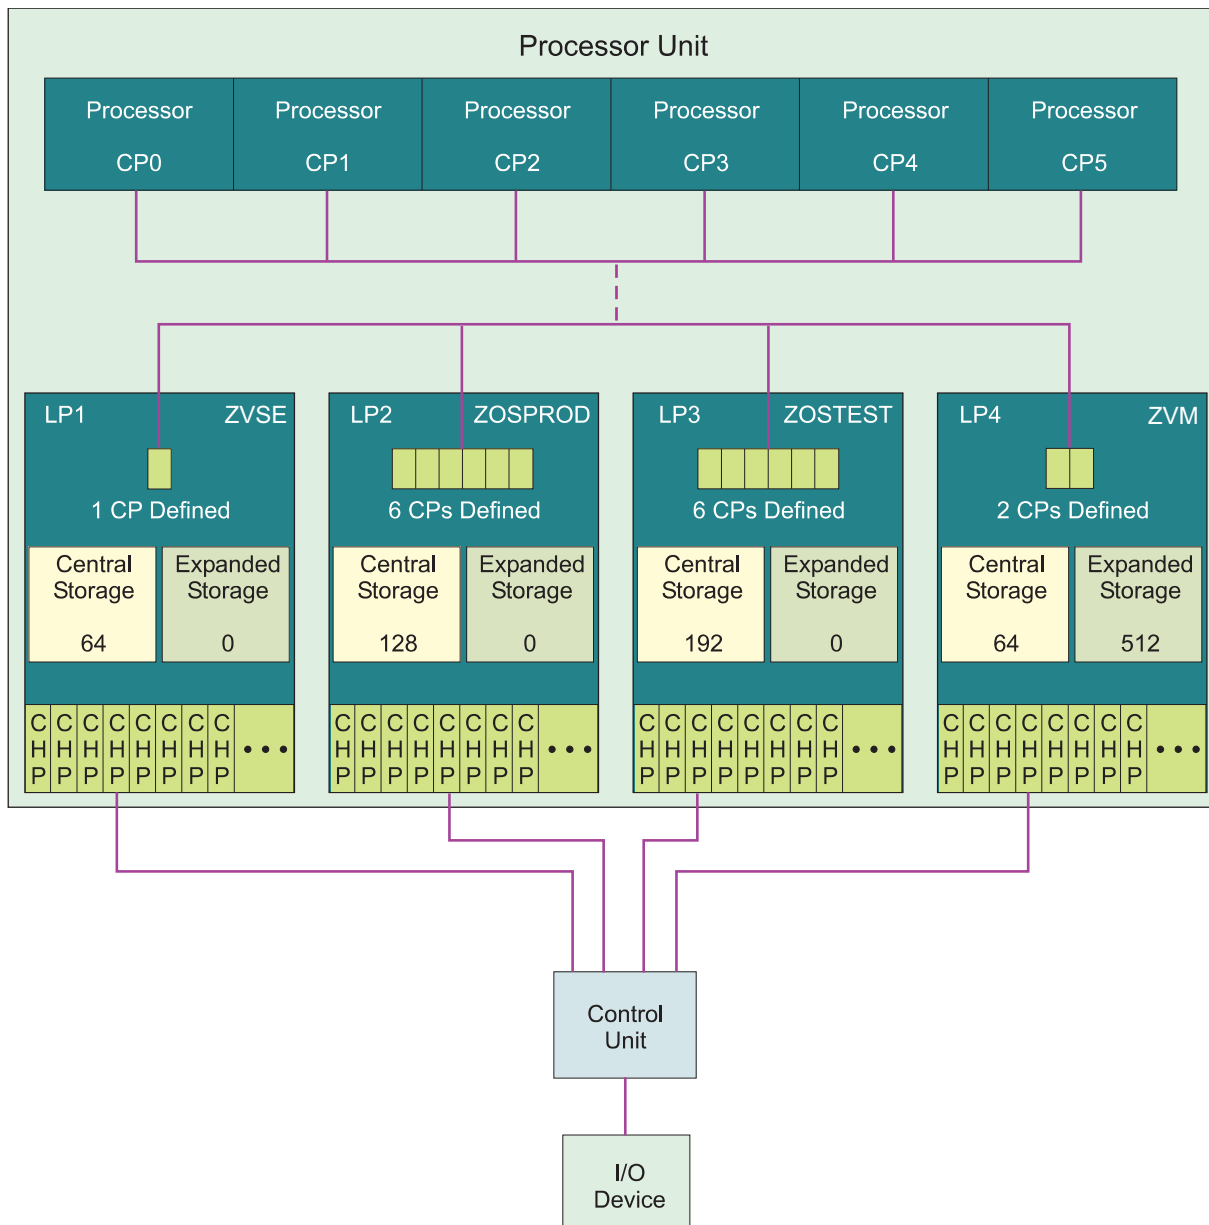

Figure 1. Characteristics of logical partitions
- Figure 1 on page 26 shows some of the characteristics that can be defined for an LP. You can view each LP as a CPC operating within the physical CPC.